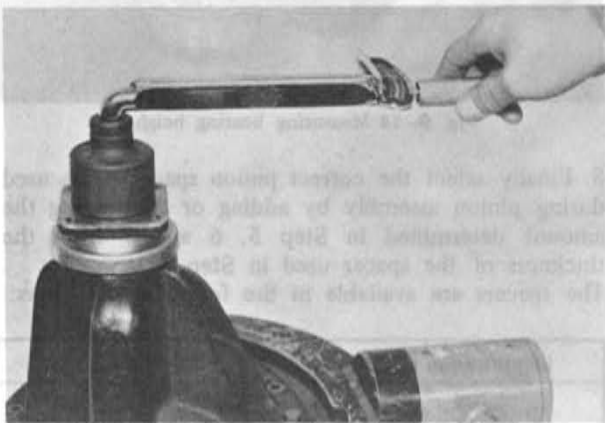

Fig. 9-16 Checking pinion bearing preload
6. Tighten the pinion nut to **20 m-kg (145 ft-lb)** and check the preload as shown in Fig. 9-16.